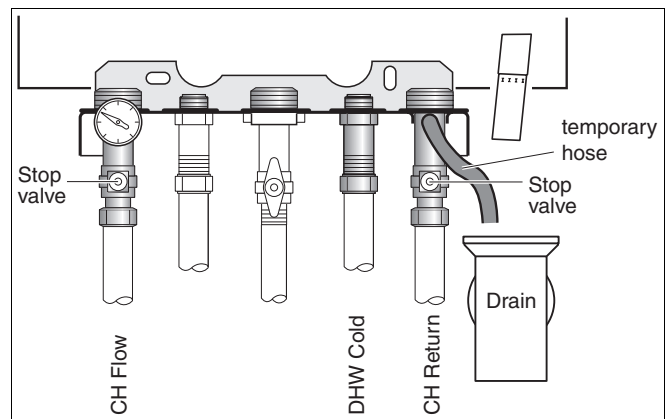

fig. 36 Draining the system
- Connect temporary hose (→ fig. 36).